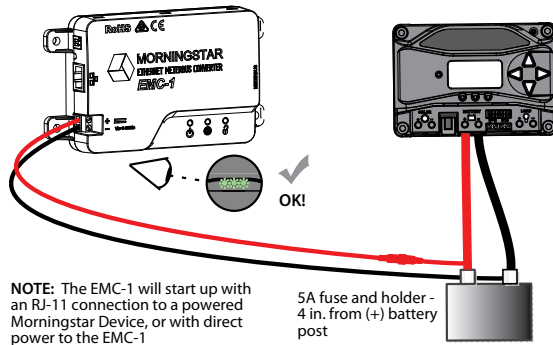

Figure 2-4. Connecting the power wires
The EMC-1 is powered from an 8-80 Vdc supply, such as an AC-DC converter or system battery connected to the power input provided on the EMC-1 unit. See the Operation section (3) for details on the start-up procedure. Connect the power wires as indicated in Figure 2-4 below.